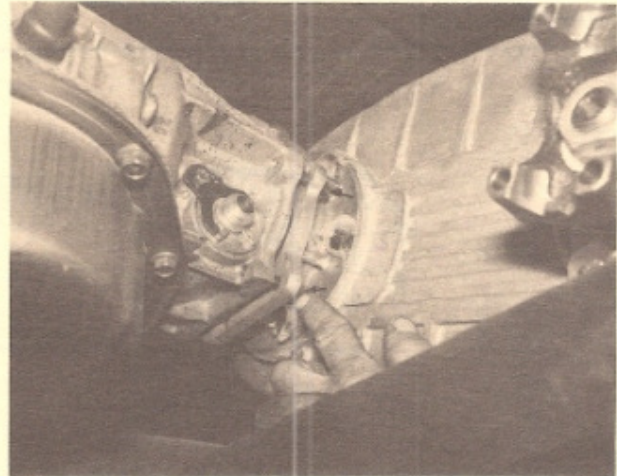

Figure 103 – Lower Transfer Case Bolts
4. Remove the lower four (4) nuts from studs on rear of the transmission case. (Figure 103.)